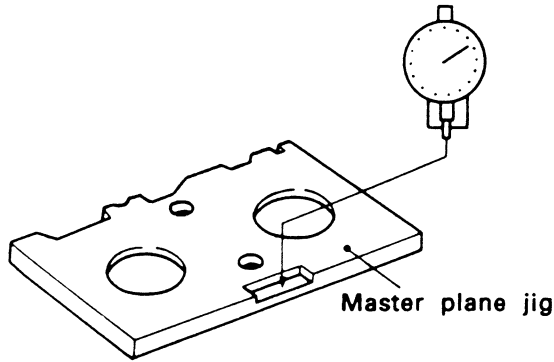

Fig.3-1 Master plane jig setting
- a) Remove the front loading parts and set the master plane jig as indicated in Fig.3-1.
- a) Set the master plane jig as shown in Fig.3-1.